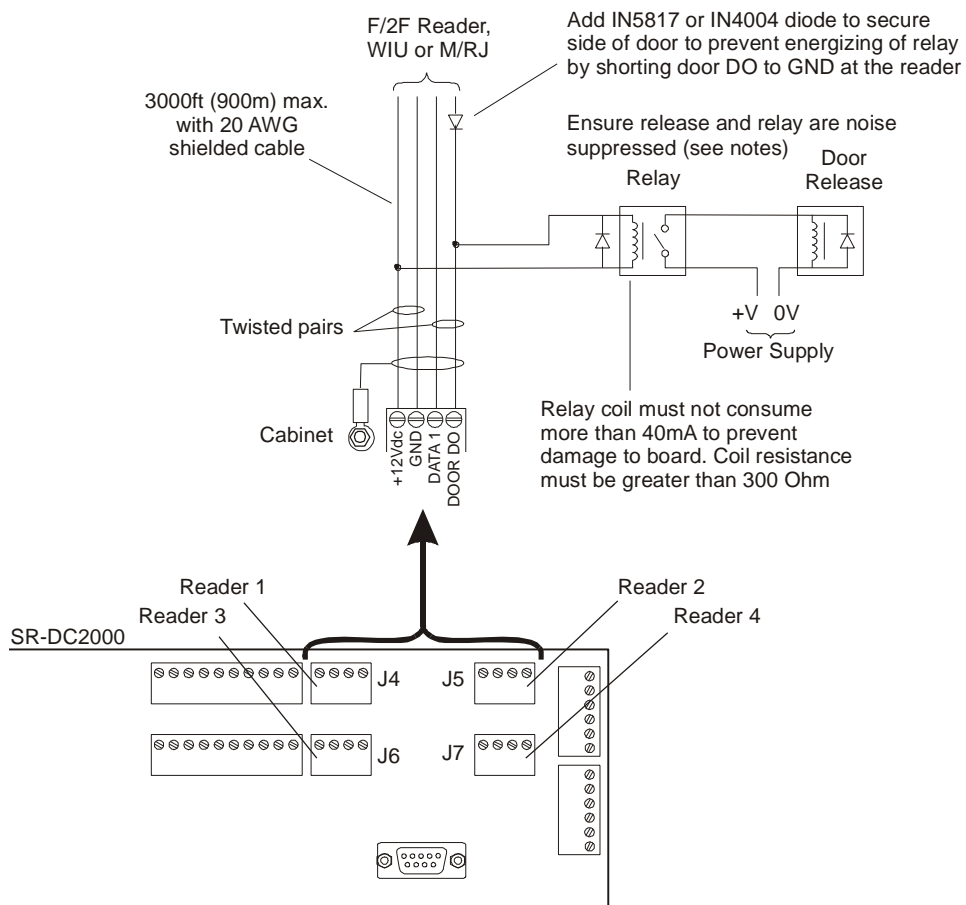

Figure 5-7: SR-2000 Reader Connections
Figure 5-7 shows how to connect the readers.
- Door releases or other inductive loads (including relays) must contain noise suppression circuitry (see Figure 5-7). Fit a metal-oxide varistor (MOV) across AC door releases and an IN4004 suppression diode across DC door releases. Some locks (e.g. Abloy Magneguard) already contain a suppression device and in these cases, no additional circuitry should be fitted, or the lock may fail.